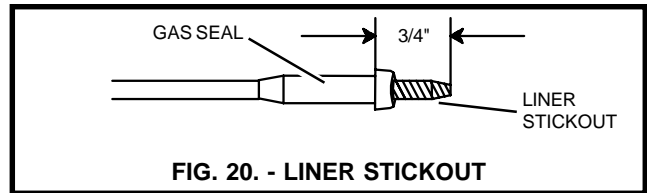

FIG. 20. - LINER STICKOUT
3. Adjust the liner stickout length to 3/4" as shown in FIG. 20.